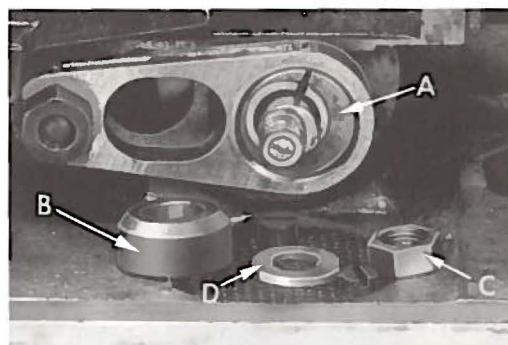

Fig. 12
In assembling the feed eccentric (A, Fig. 12), be sure the hub and oil groove is to the left. Beveled edge of feed eccentric spacer (B) should also be to the left side, so the undercut on the spacer will be over the hub on the feed eccentric. Be careful not to damage shaft or key.